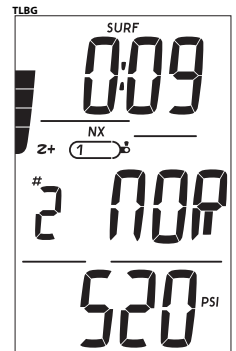

Fig. 3 - NORM SURF MAIN
**NORM SURF MAIN**, information includes (Fig. 3):